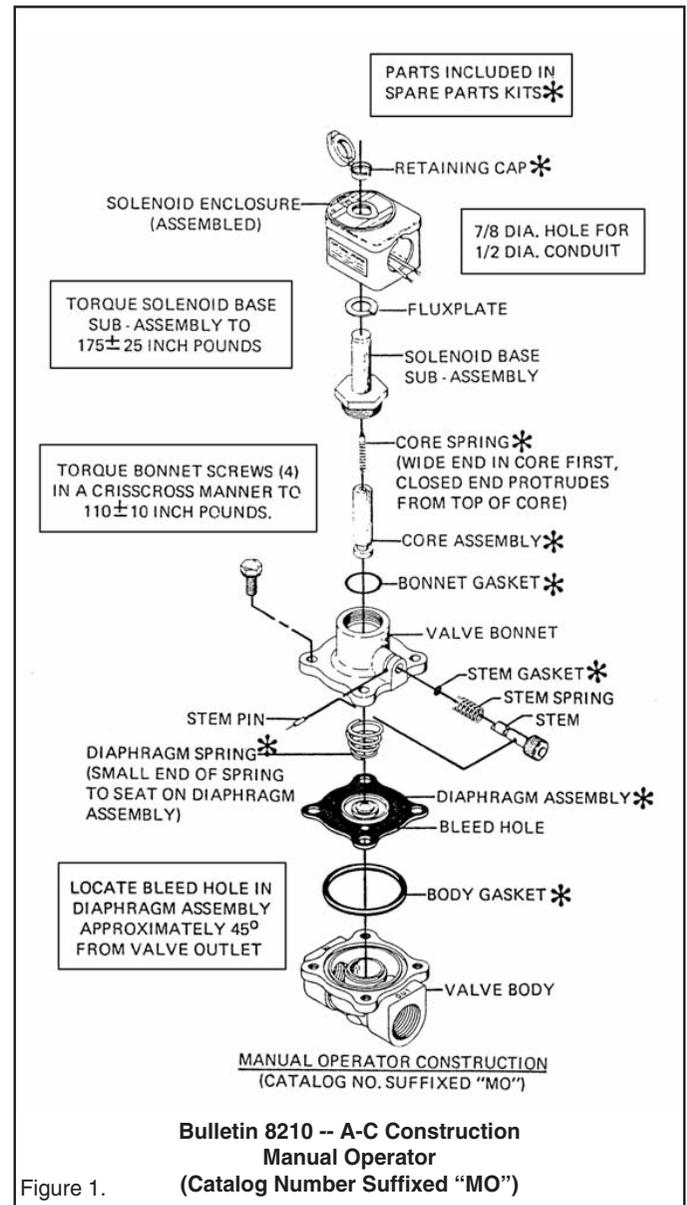
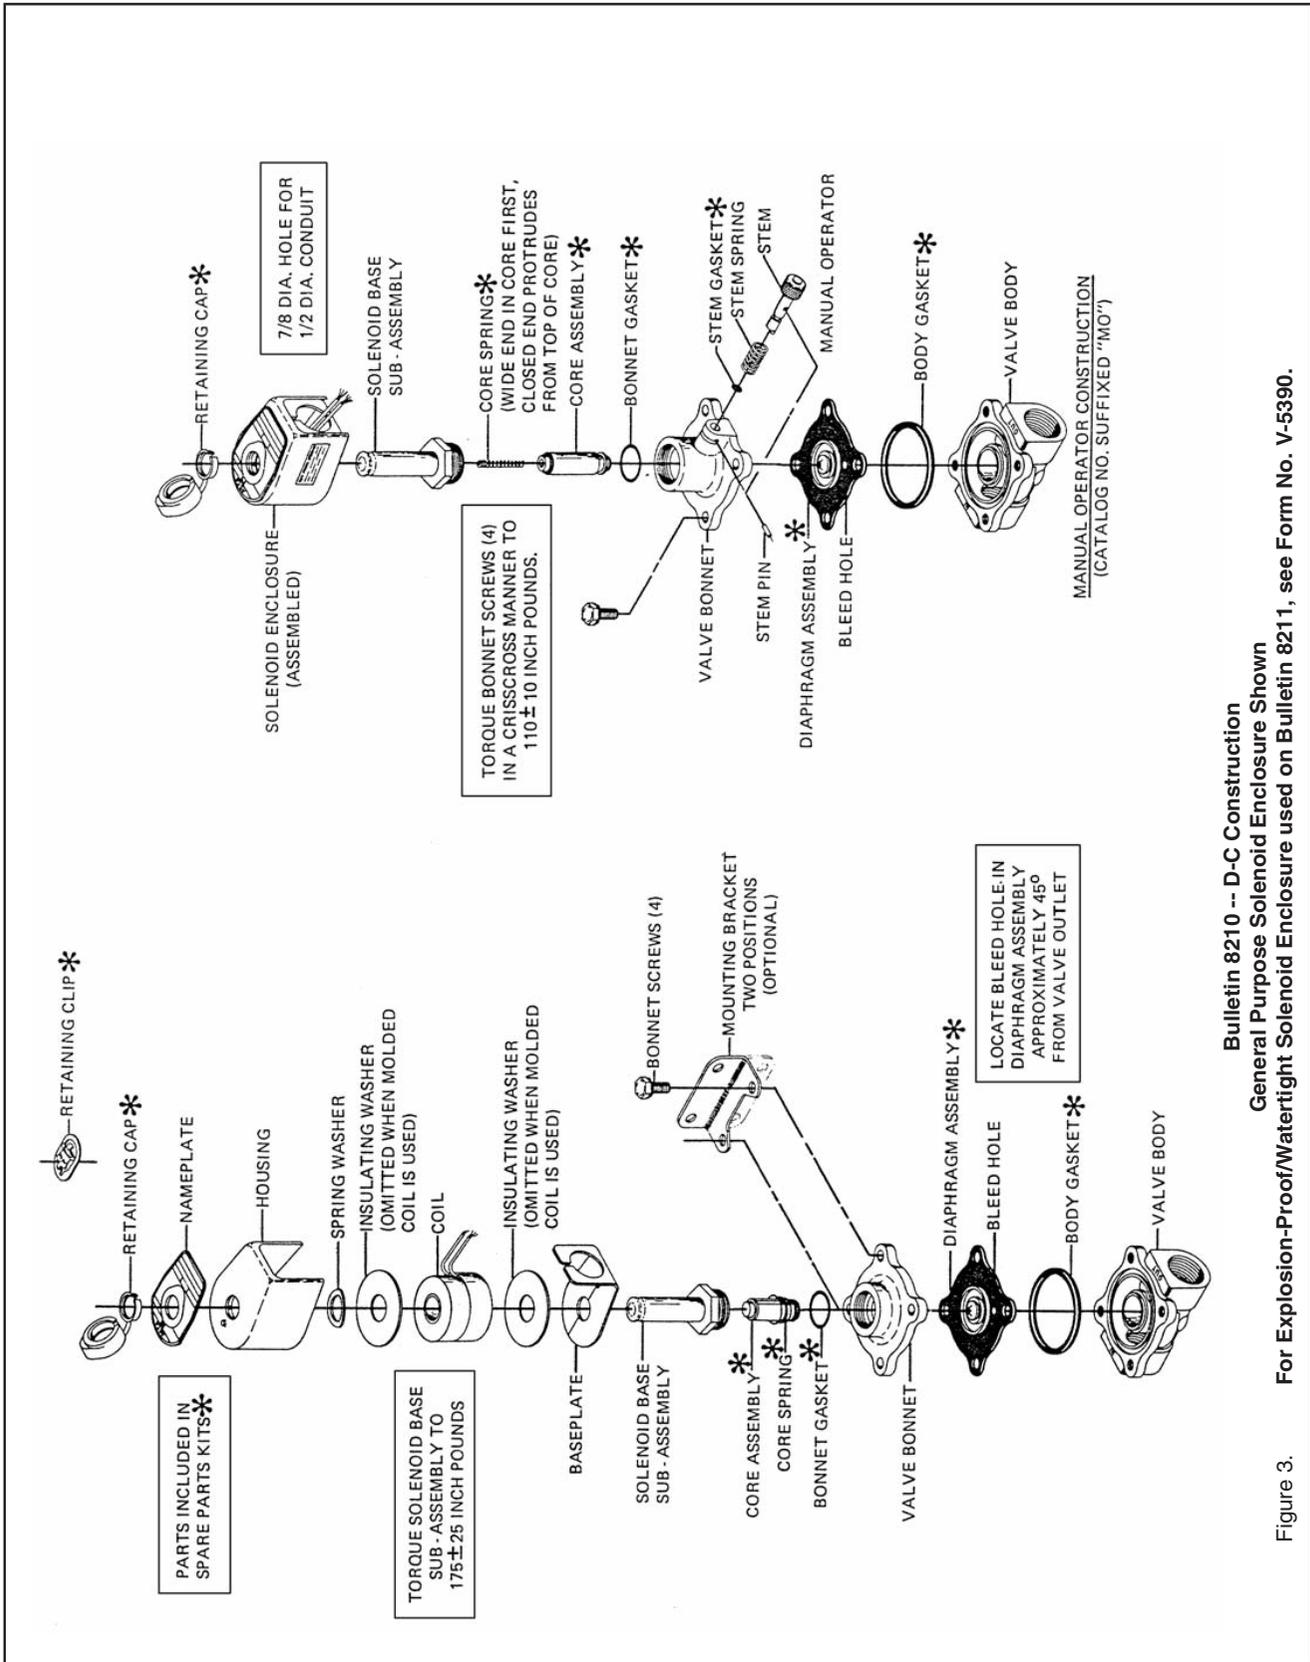

Figure 1.
Figure 3. Bulletin 8210 -- D-C Construction
COIL REPLACEMENT (Refer to Figures 1, 2 and 3)
Depressurize valve and turn off electrical power supply. For A-C Construction, refer to Figures 1 and 2. For D-C Construction, refer to Figure 3. Proceed in the following manner:
3. Replace valve bonnet and bonnet screws. Torque bonnet screws (4) in a crisscross manner to 110 ± 10 inch pounds.
4. For A-C Construction, the diaphragm spring, core assembly and core spring must be installed prior to assembly of bonnet as this is the solenoid base sub-assembly. Be sure diaphragm spring is installed properly. Closed turns of spring to seat on diaphragm assembly. For valves with a manual operator (see Figure 1), the small end of diaphragm spring seats on diaphragm assembly.